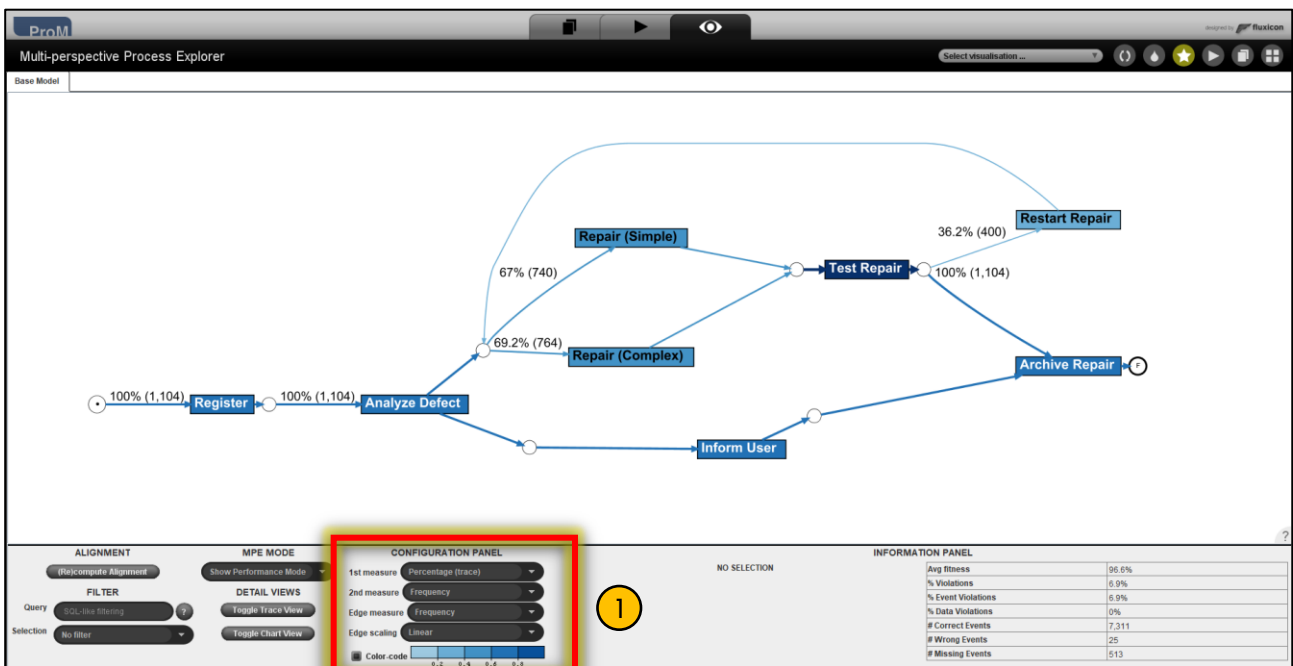
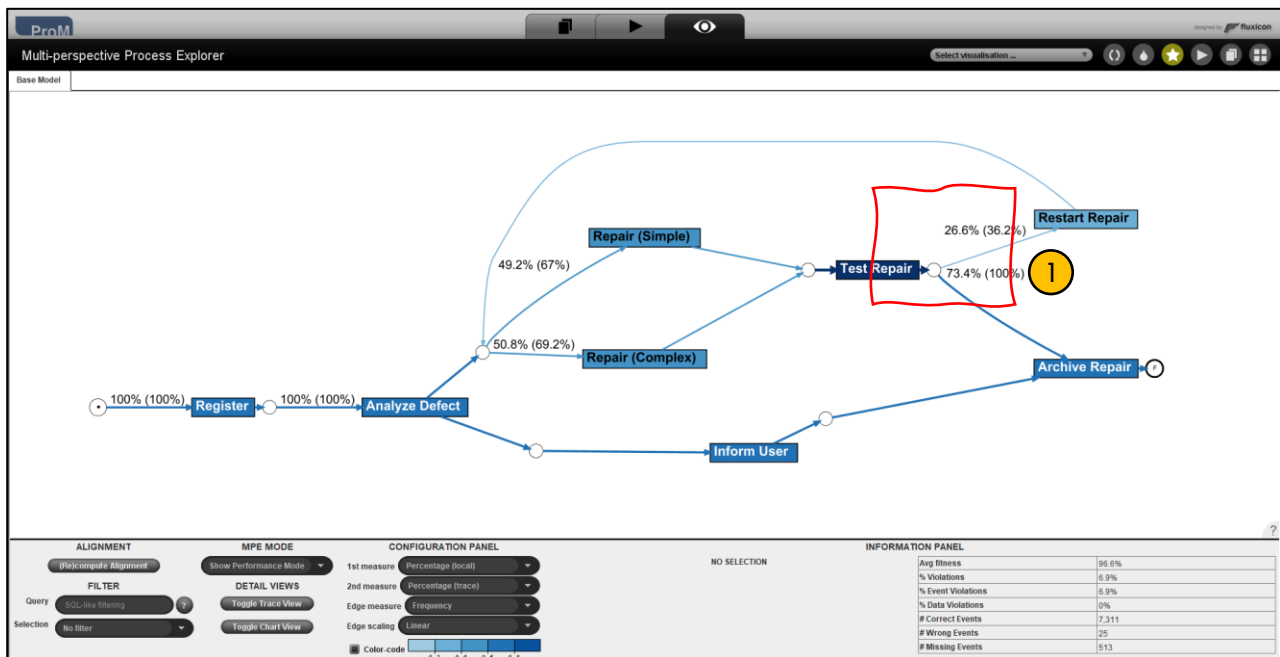

Figure 13. MPE Performance Mode by default values
Figure 14. MPE Performance Mode by percentage (local) in the 1st measure
Area ① in Figure 13 includes some configuration settings. *1st measure* is the value before the brackets, while *2nd measure* refers to the value within the brackets. *Edge measure* defines how edge thickness will be determined for a transition colour. The value shown above is not the actual routing probability of a place *p*, which is intended as the probability of traversing the arc when a token is present in place *p*. To compute this value, you need to change the measure to *Percentage (local)* in the *1st measure* like in Figure 14. To better explain, let us consider the place in Area ① in
in Figure 14. It is an *XOR split* between *Restart Repair* and *Archive Repair*. Figure 14 indicates that when a token is present in that place, it is consumed 26.6% of the time by *Restart Repair*, while it is consumed 73.4% of the time by *Archive Repair*. This is different for the percentage of traces in which the token is consumed by one or the other transition. Indeed, every execution will eventually execute *Archive Repair*.